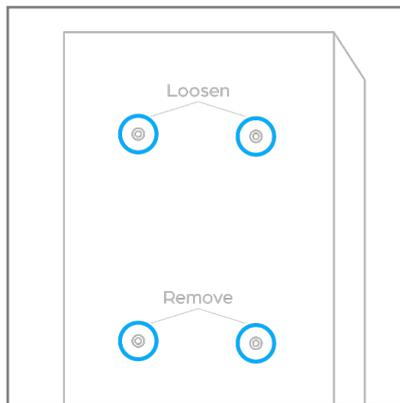

Figure 04.
Step 1: Remove the two lower 1/2" long button head hex screws on the face of the stand and partially remove the two upper screws, leaving approximately 1/4" of the threading exposed (Figure 04.).